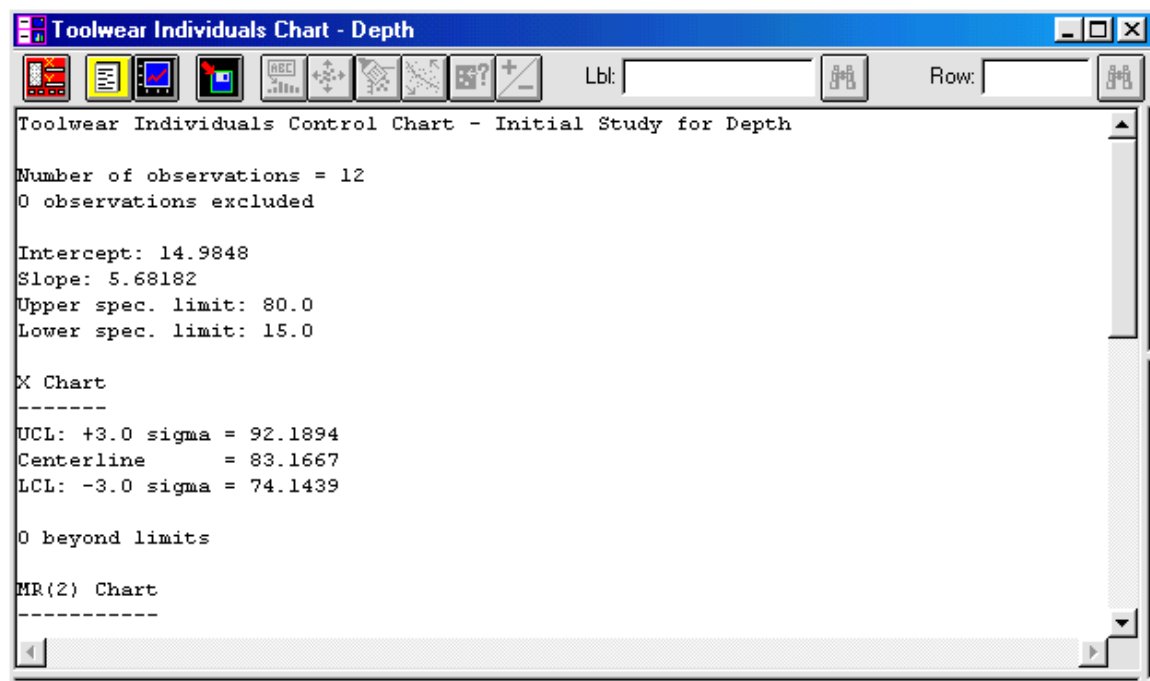

Figure 7-40. Analysis Summary
The Analysis Summary option creates a summary of the analysis for either an initial or a control-to-standard study that helps determine if the data come from a process that is in statistical control (see Figure 7-40). The summary shows the location of the limits on the Toolwear and MR(2) charts. The charts are constructed using the assumption that the data come from a normal distribution with values for the mean and standard deviation estimated from the data.